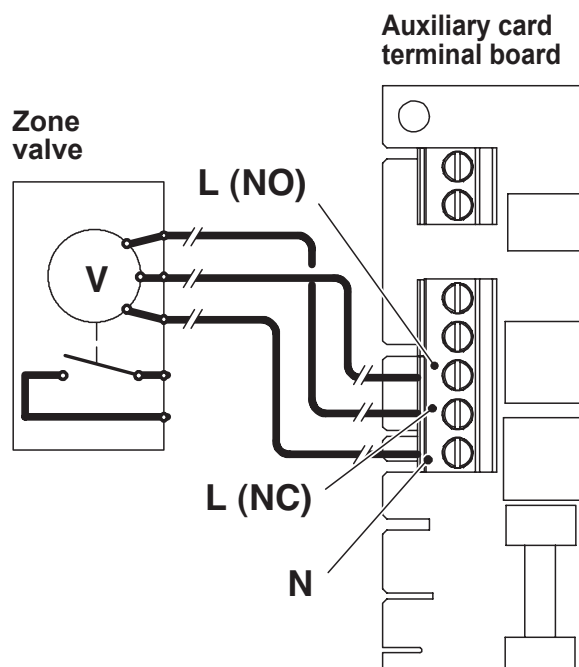

Fig. 6.25
For the connection of the zone valve use the terminals from the auxiliary card **N** (common neutral), **L (NO)** line 230V ~ (valve opens heating system), **L (NC)** line 230V ~ (valve closes heating system) Fig. 6.25.